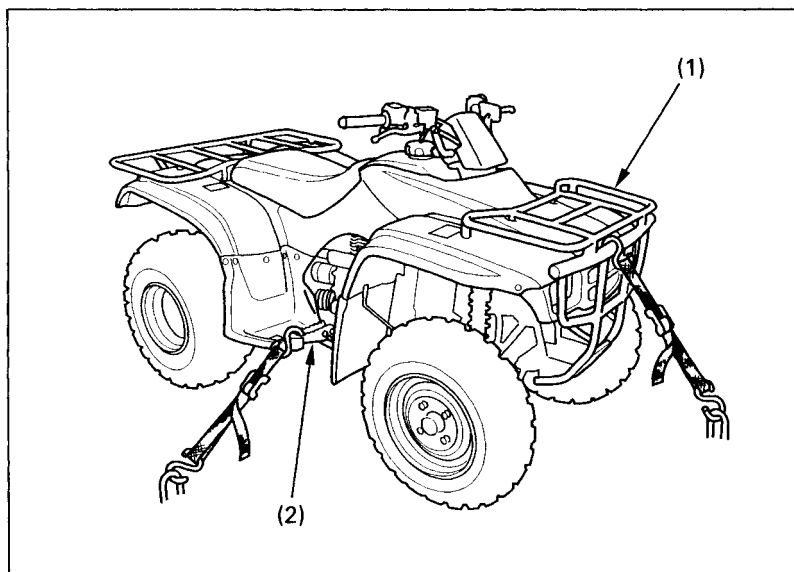

Fig. 4-36 Points to secure FOURTRAX with tie downs
3. Secure the vehicle with "tie downs" in the areas shown (Fig. 4-36). Suitable "tie downs" are available from your Honda dealer. Ordinary rope is not recommended because it can stretch under load.